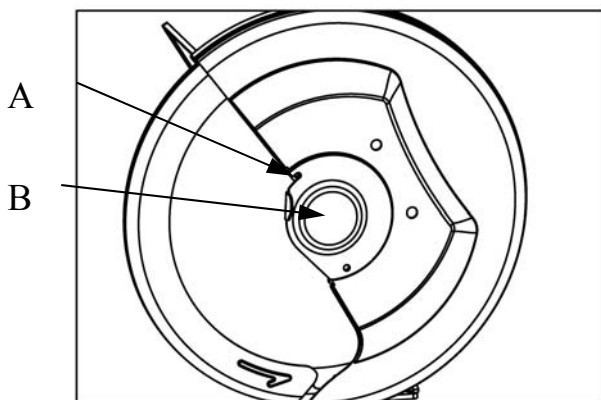

Fig.9
2. Loosen the screw (A), and remove the saw blade cover (B) as shown Fig. 9.